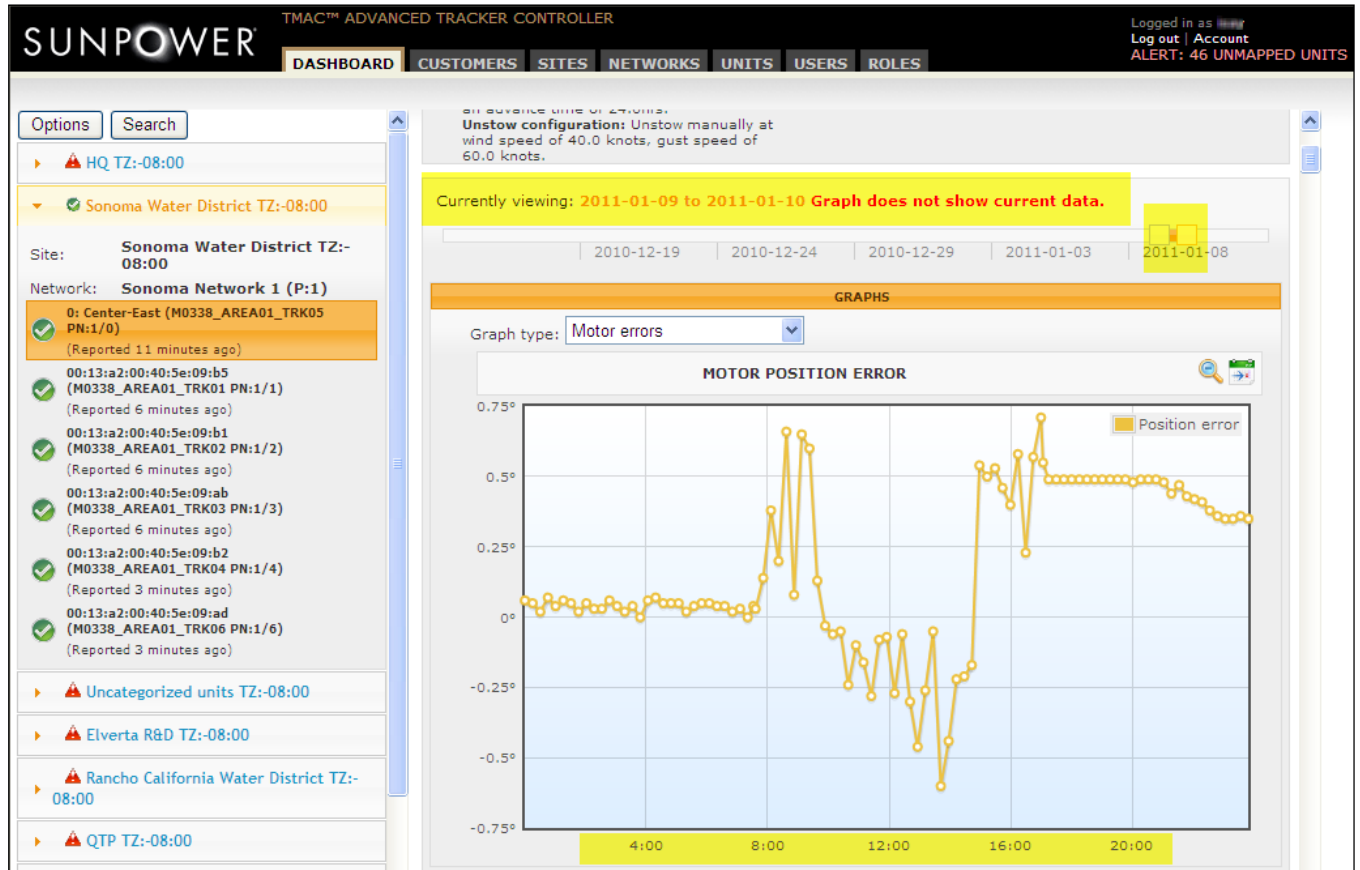

Fig. B35
- To view older data, move the left-end square of the slider to the left. At a time, you can plot up to three days' worth of data. To view data two or a day at a time, decrease the width of the slider by moving the right-end square to the left (Fig. B35). The message *Graph does not show current data* is displayed if the graph currently plotted is for historical data.